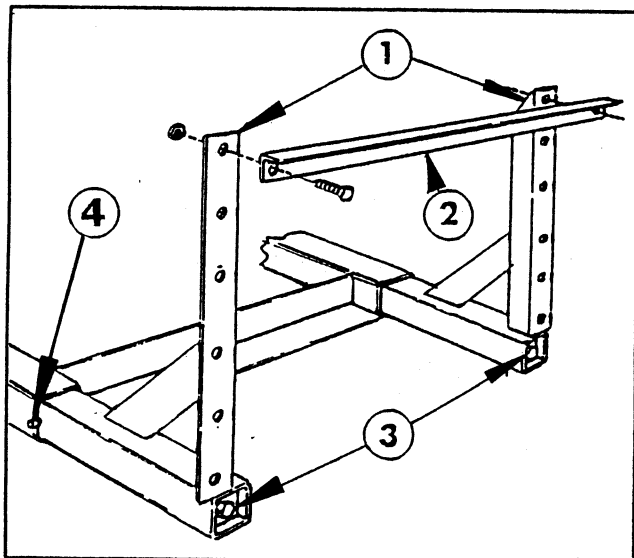

FIG. 9
- Apply a heavy coating of grease to the tubes of the two Boom Mount Assemblies and insert them into the Vehicle Frame as shown in FIG. 9.